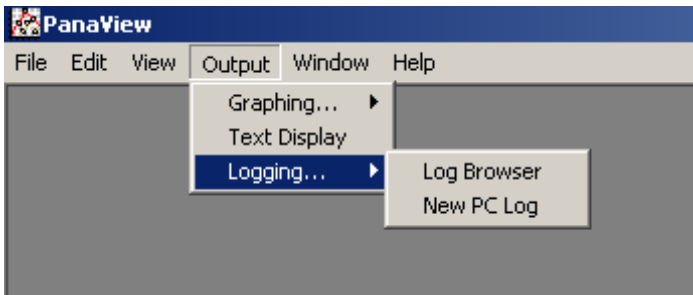
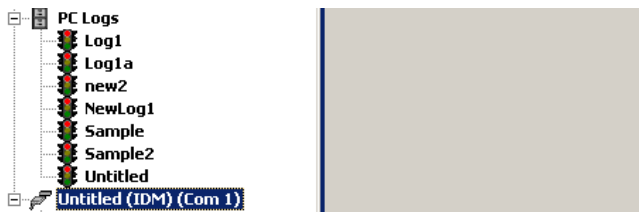
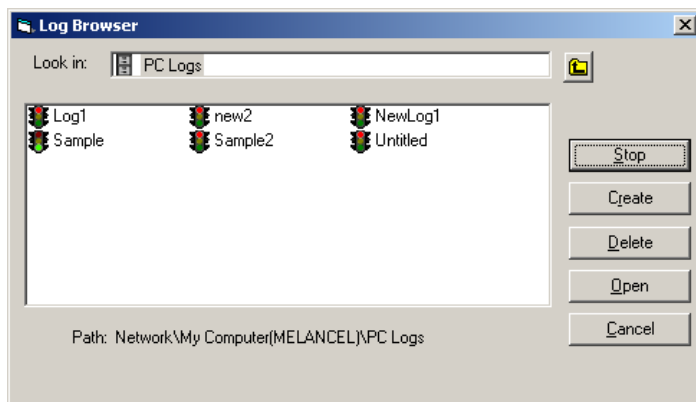

Figure 13: Selections in the logging option
Figure 22: Expanded PC logs option
Figure 23: Selecting a log file from the log browser
1. Open the output menu (see *Figure 13* below), and click on the *logging* option.
- From the *new meter browser* in PanaView, expand the network tree and click on the *PC logs* option. If you have created one or more logs, the tree will appear similar to *Figure 22* below. Double-click on the log name to open the log, or
- Pull down the *output* menu (see *Figure 13* on page 32), and click on the *log browser* option. advance to the *PC logs* dialog box as described in previous sections. A screen similar to that shown in *Figure 23* appears.
Notice that each of the log files in *Figure 22* and *Figure 23* has a traffic light icon next to its name. These icons indicate the current status of the log as follows: